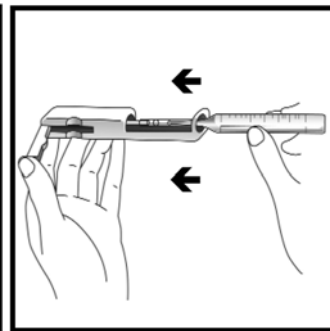

Figure 4
4. Lift the control bar and insert the ampoule assembly into the titrator (Figure 4).